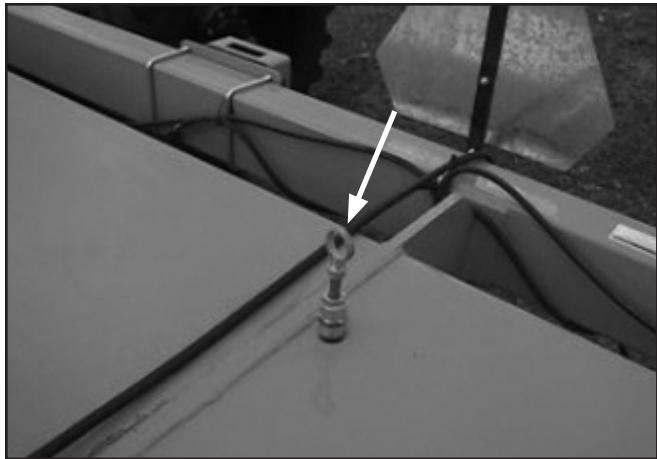

Figure 31. Gearbox Oil Fill Location
1. Check gearbox daily or every 8 hours of operation. See Figure 31 for gearbox oil fill location